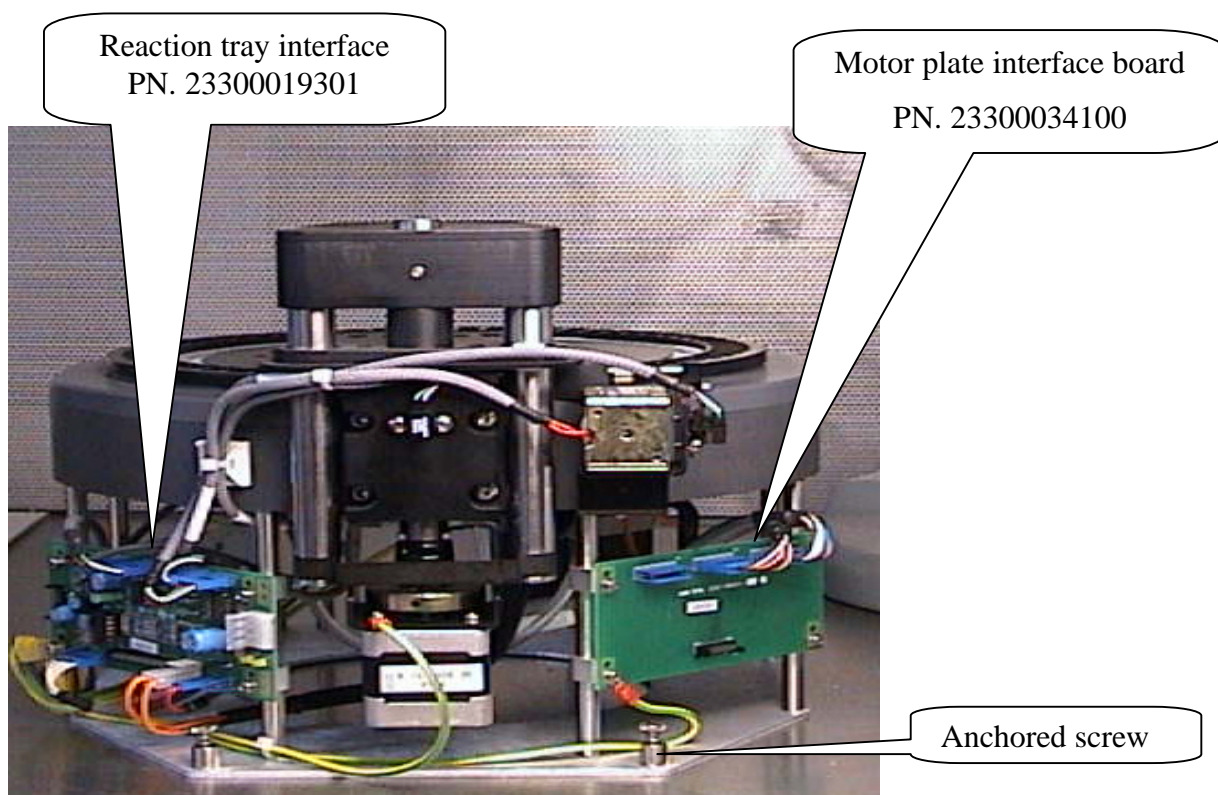

Fig. 3 Reaction Plate assembly PN. 23910006101 \*
3. Unscrew the four anchored screws of the reaction plate module (Fig. 3).
4. Remove the J1 connector and the ground wire from the Reaction Chamber Motor Interface(Fig. 3).
5. Remove the J1, J4 and J14 connectors and the ground wire from the Reaction Plate Interface (Fig.3).